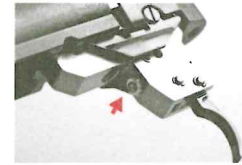

Fig. 9. Trigger weight adjusting screw and lock nut
B. Loosen the lock nut on the front adjusting screw by turning the nut counter clockwise (when viewed from the front), (see Fig. 9).